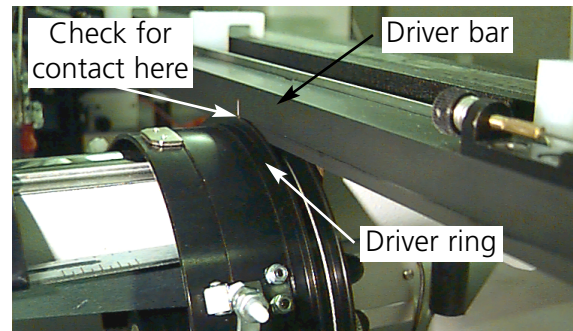

Figure 3-12
12. Level the interface bracket. To do this, first move the beam all the way to the left, by pushing on the X-carriage. Make sure that there is no gap between the driver bar and driver ring (see Figure 3-12). If needed, press down lightly on the bar and tighten the corresponding socket-head cap screw on the interface bracket slightly. Then, by pushing on the X-carriage, move the beam all the way to the right and repeat the procedure.